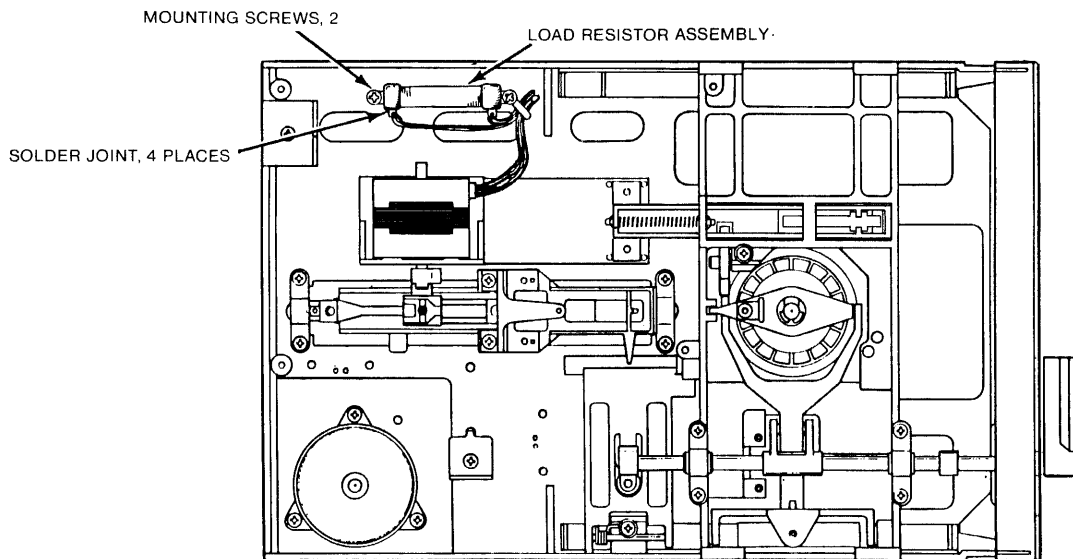

Figure 5-19
- D. Unsolder the wires to the load resistors (see Figure 5-19).